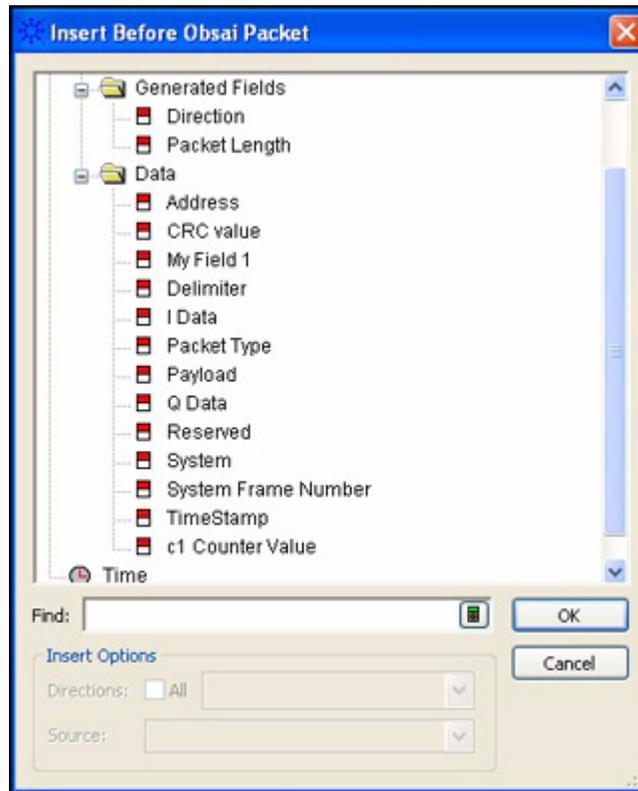

Figure 53 Insert Before dialog box
- 2 The list of column details that can be viewed opens up as shown in the Figure 53.